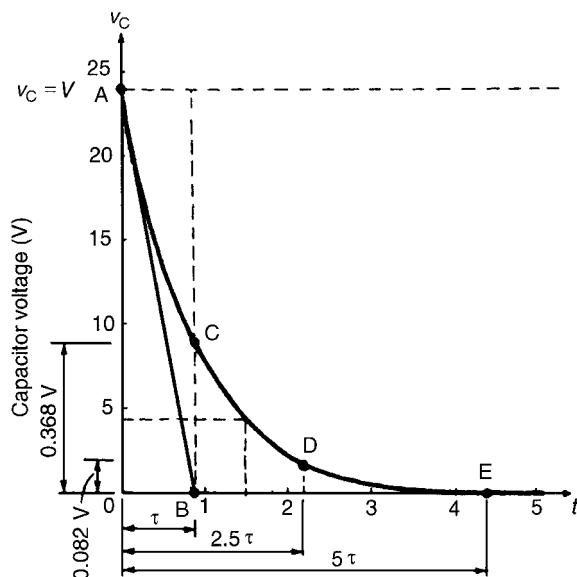

Figure 18.5
- The exponential decay of capacitor voltage is from 24 V to 0 V in a time equal to five time constants, i.e. $5 \times 0.88 = 4.4$ s. With reference to Fig. 18.5, to construct the decay curve:
- (vi) the value of the transient after a time equal to two and a half time constants is 0.082 of the initial value, i.e. $0.082 \times 24 = 1.97$ V, shown as point D in Fig. 18.5,
- (b) The voltage drop across the resistor is equal to the capacitor voltage when a capacitor is discharging through a resistor, thus the resistor voltage/time characteristic is identical to that shown in Fig. 18.5 Since $v_R = v_C$, then at 1.5 seconds after decay has started, $v_R \approx 4.4$ V (see (vii) above).